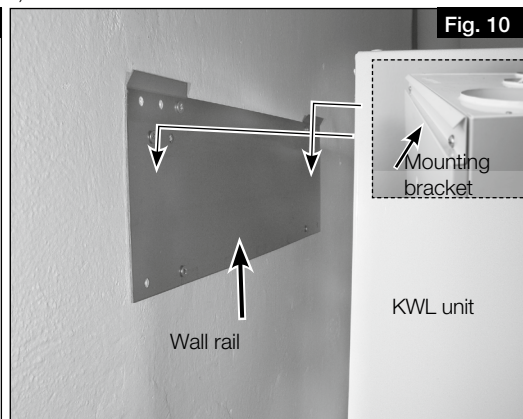

Fig. 10
3. Hang the unit mounting bracket on the wall rail (see Fig. 10).